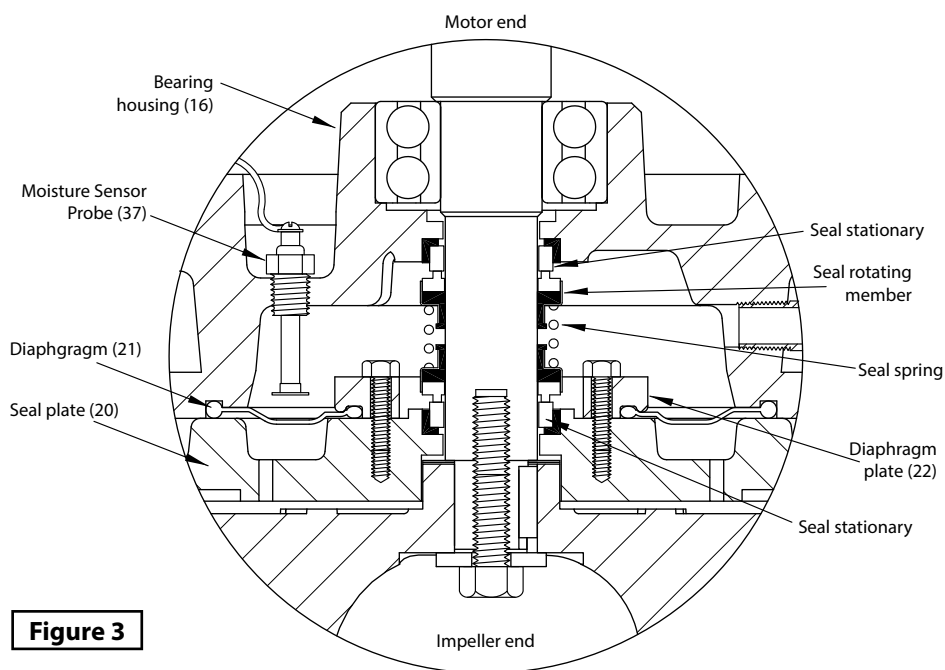

Figure 3
Seal/Diaphragm - (See Figure 3) Clean and oil seal cavities in bearing housing (16) and seal Plate (20). Lightly oil (**Do not use grease**) outer surface of inboard and outboard stationary members of seal (19). Press inboard stationary member firmly into bearing housing (16) and outboard stationary into seal plate (20), using a seal pusher tool. Nothing but the seal pusher tool is to come in contact with seal face.